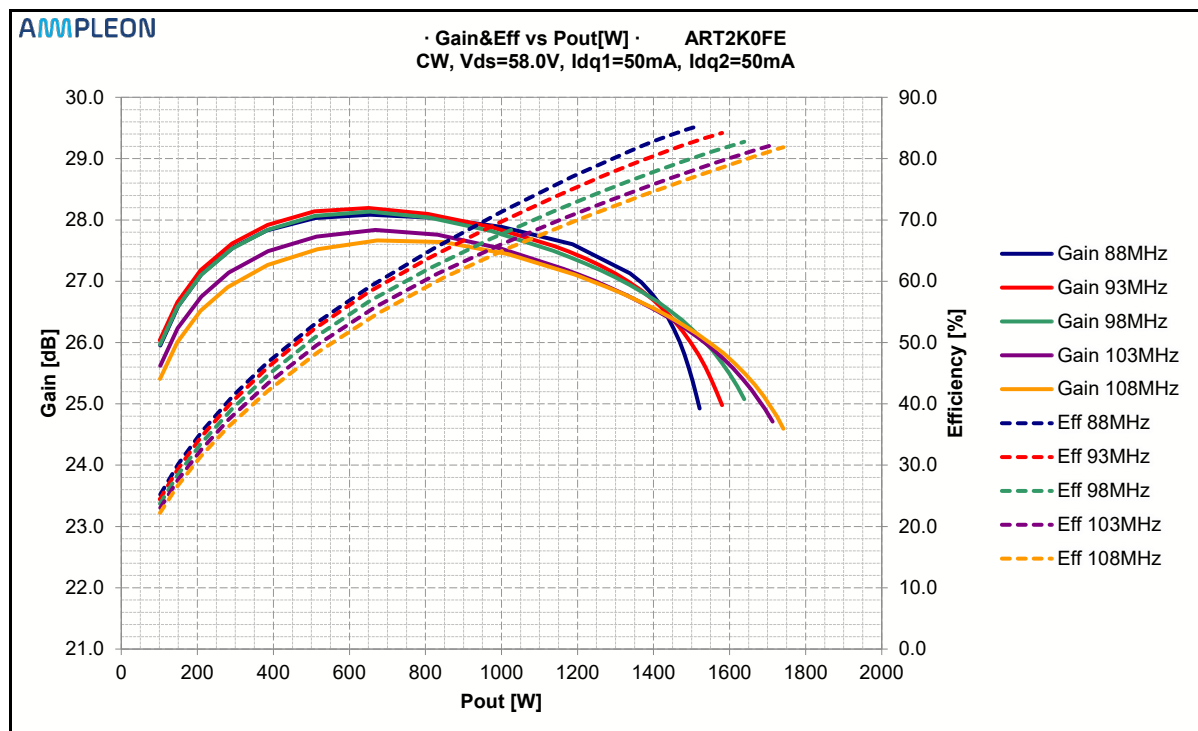

Figure 1 CW (Vds=58V) Gain and Efficiency vs Pout [W]
- Figure 1 CW (Vds=58V)Gain and Efficiency vs Pout [W] 5